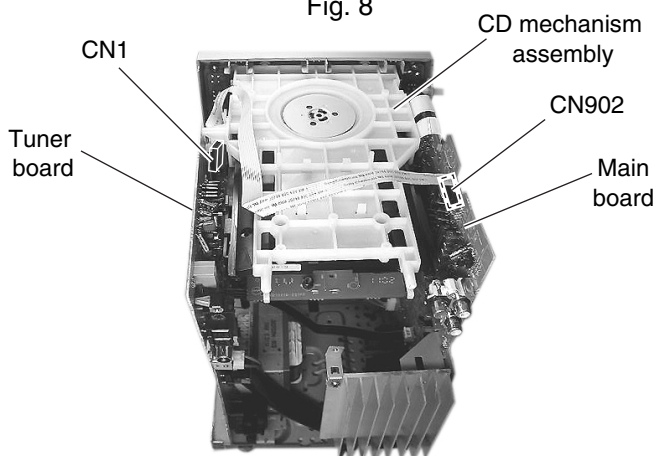

Fig. 9
■ Removing the tuner board (See Fig. 9~10)